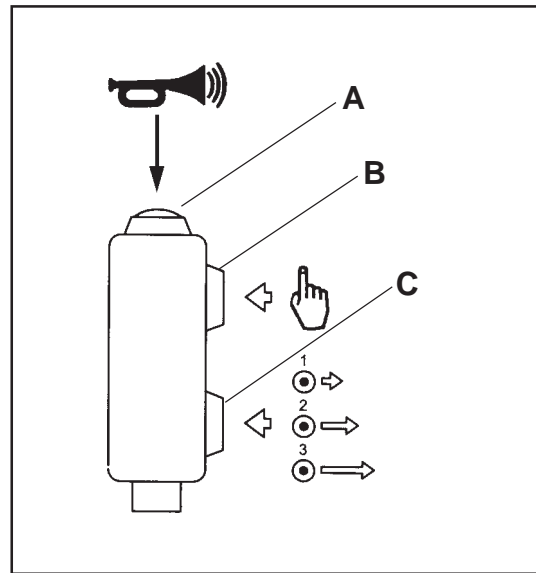

Figure 17
1. **Horn** : The horn is a red button located on the top of the joystick (figure 17, item A). **NOTE: The horn sounds continuously when pressed and intermittent and automatic in reverse.**
2. **One Touch**: The one touch button is a green button located on the upper front of the joystick (figure 17, item B). **NOTE: For more information about the one touch control see below.**
3. **Speed Selector**: The speed selector is a black button located on the lower front of the joystick (figure 17, item C).
1. Press and hold the green one touch button (figure 17, B) until you hear a *double beep* from the machine. **NOTE: The time required for this will be approximately 15 seconds.**